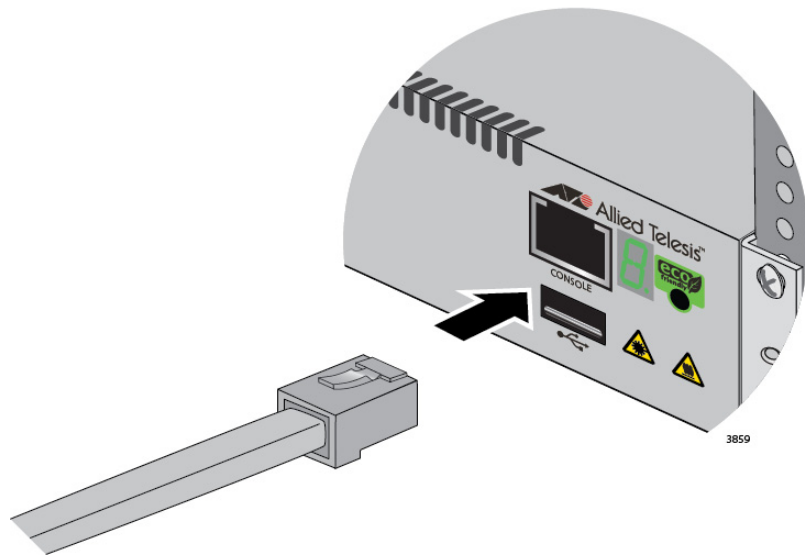

Figure 39. Connecting the Management Cable to the Console Port
1. Connect the RJ-45 connector on the management cable to the Console port on the front panel of the switch, as shown in Figure 39.